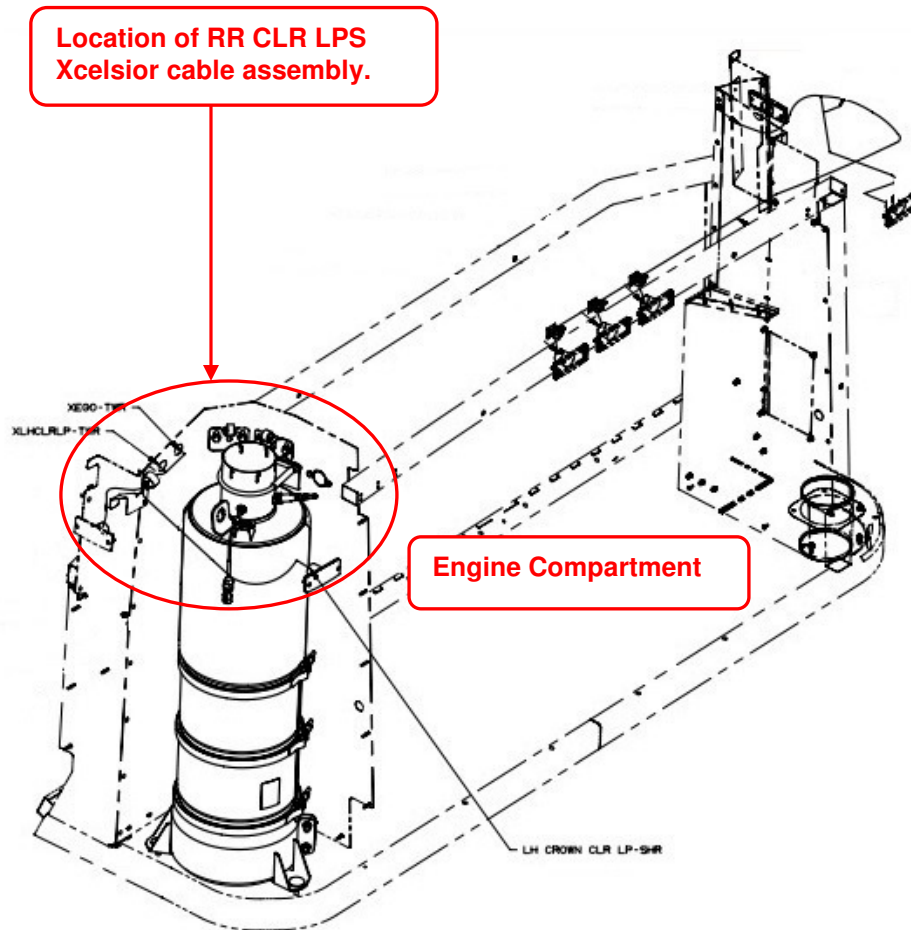

Figure 1: Location of Cable Assembly.
2. Locate the RR CLR LPS XCELSIOR harness assembly as shown in Figure 1.